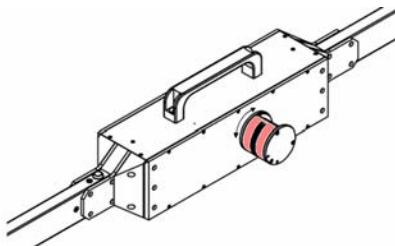

Figure 4
8. Rotate the black lens cover to reveal the optical lens before attempting to take any readings (Figure 4)